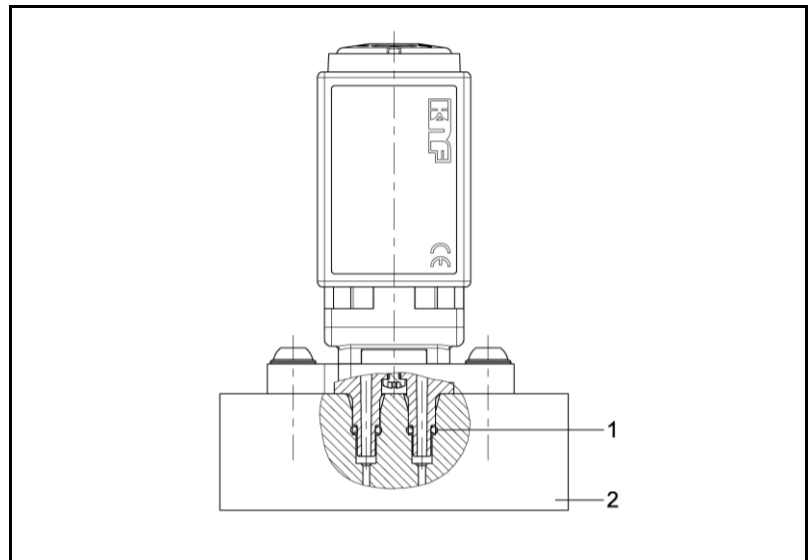

Fig. 5: Assembly diagram
- As shown in the assembly diagram (Fig. 5), the pump is mounted on the flange (2) and sealed with O-rings (1).